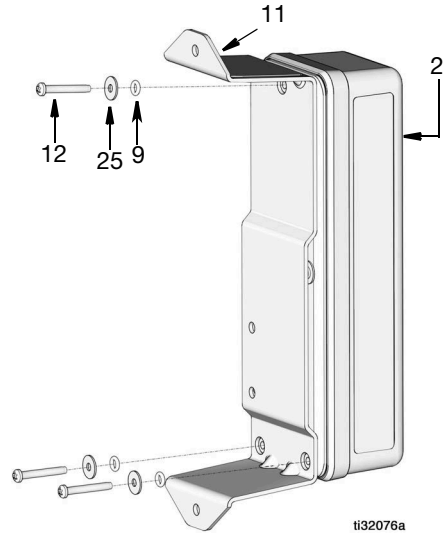

FIG. 12
21. Align PAC enclosure assembly (2) to the bracket (11). Install o-rings (9), washers (25) and screws (12) to secure bracket to enclosure (FIG. 12).